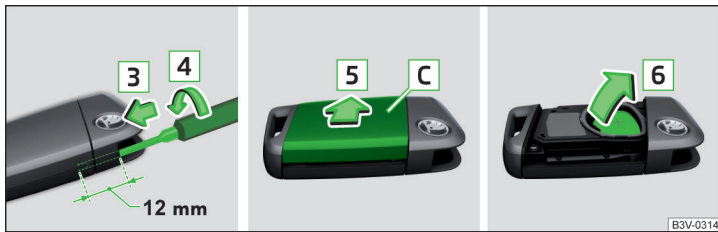

Fig. 344 Open the cover/remove the battery
- › Insert a narrow screwdriver (3 mm wide) approximately 12 mm into the opening in the direction of arrow **3** » Fig. 344.